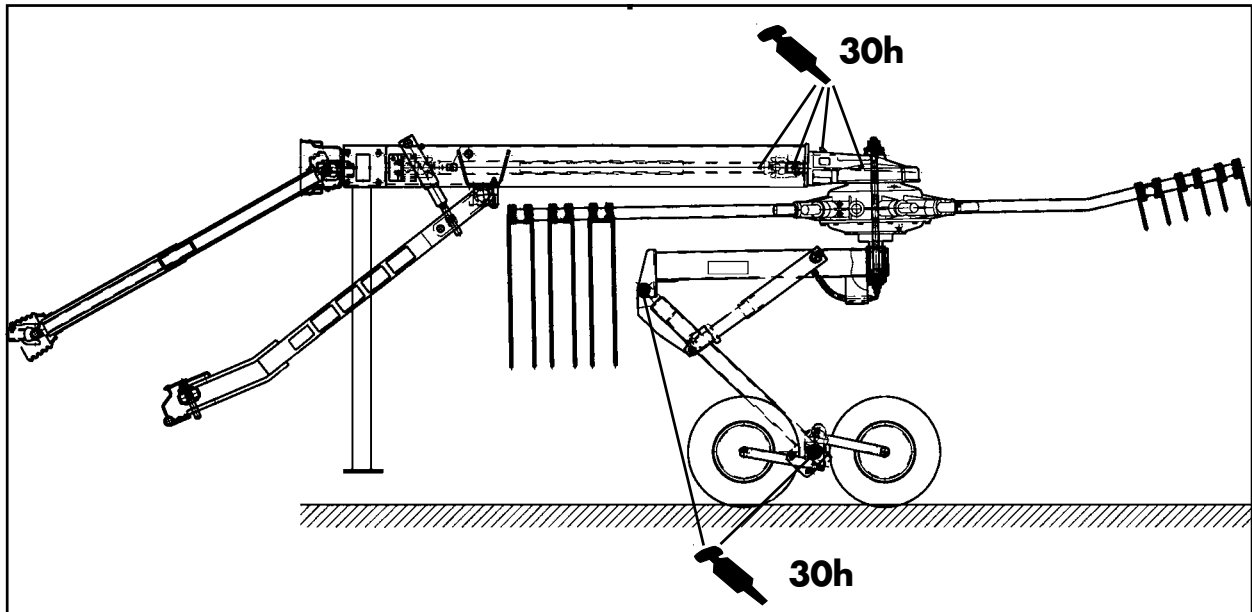

Figure 5-1
- Lubricate the implement according to the lubrication diagram (figure 5-1 and 5-2)